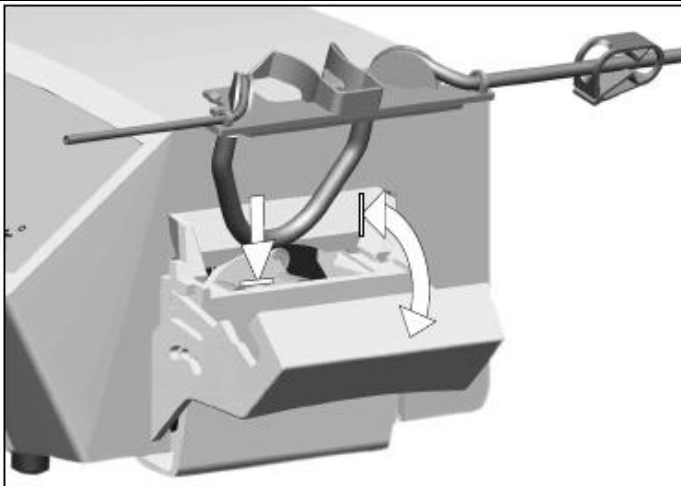

fig. 8
- K. Install the plastic cassette in the peristaltic pump. Check that the cassette is clipped correctly. Close the pump lid, **fig. 8**. If there is resistance to closing, open the lid again and check the correct positioning of the cassette.